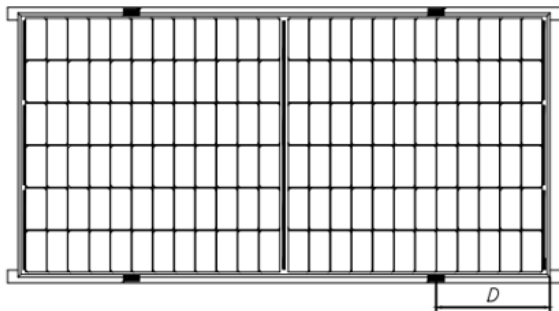

Fig.3 Rails overlapping the long-side frame
When PV modules are installed, each PV module must be fixed with at least 4 presses, as shown in Figures 3 、4、5、6.
- ⑩ For the mounting shown in Figure 3, the overlap between the C surface of the module and the rail should be $\geq 25\text{mm}$. Astronergy's limited warranty will be void if improper clamps or improper installation is used.